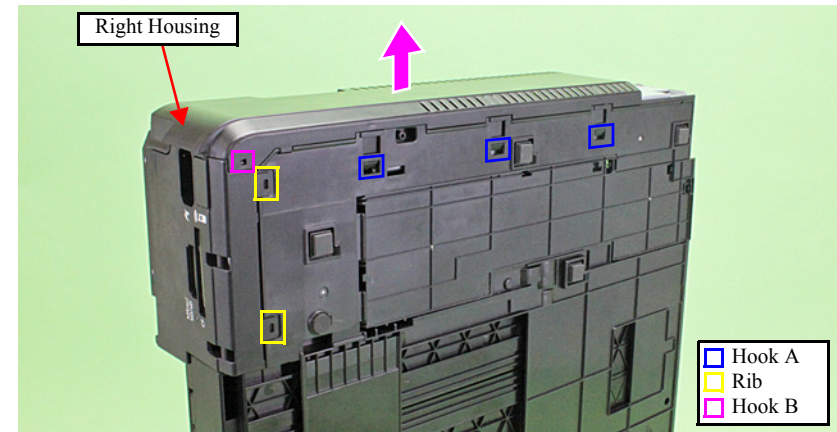

Figure 9-57. Removing the Right Housing (2)
3. Release the ribs (x2) of the Housing Front Right on the bottom of the printer (see Fig. 9-57.) and dowel (x1) of the Base Frame, and remove the Housing Front Right.